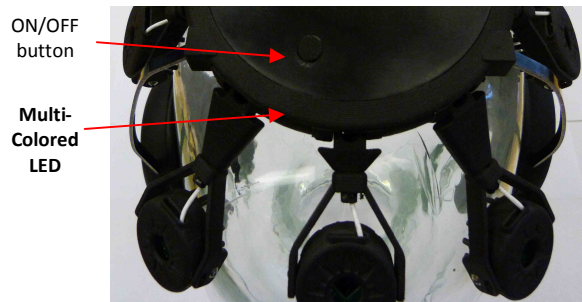

Figure 7. Front panel of DSI-7 system.
- Press the **ON/OFF** button twice on the front panel within 2 seconds to turn on DSI-7 system (Figure 7).